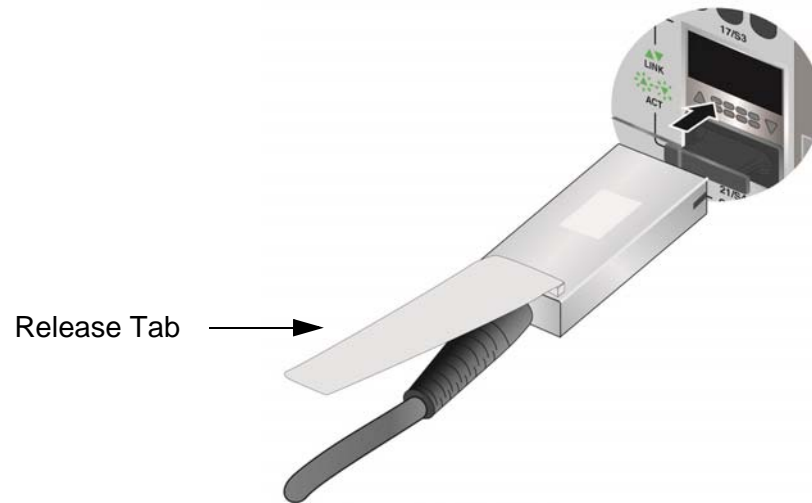

Figure 56. Sliding the AT-QSFP+ Cable into Slot 17
2. Orient the connector on the AT-QSFPCU Cable with the release tab on top and slide it into the slot until it clicks into place. Refer to Figure 56 on page 102.